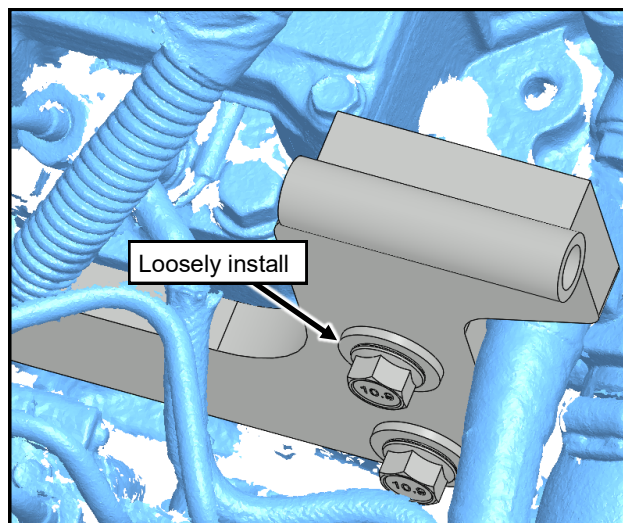

Fig. 1.37 (Loosely install second M8x1.25 x 25 screw)
- 1.37 With a fender washer and supplied red Loctite, loosely thread in an M8x1.25 x 25 hex screw into the hole shown in Figure 1.37.